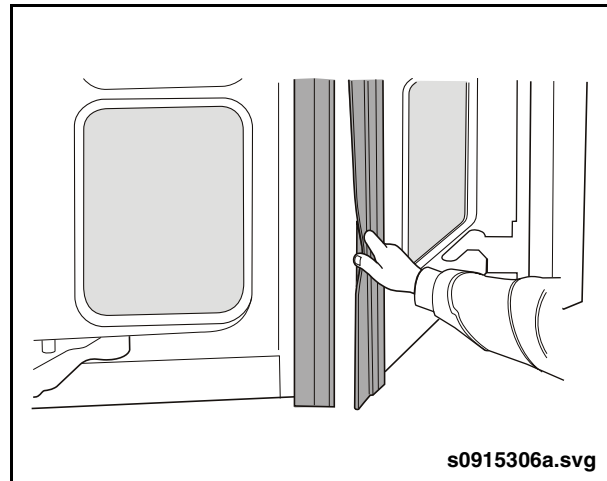

Fig. 1: Pinch Test
4. Standing outside the bus and while the doors are closing, firmly pinch the sensitive edge seal on the left hand door panel. The doors should reopen. See "Fig. 1: Pinch Test."